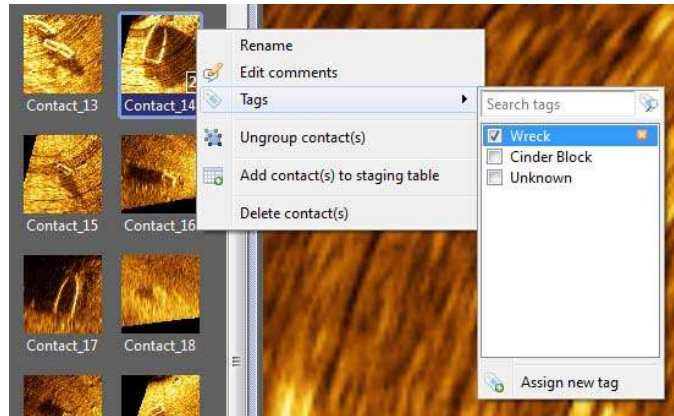

Figure 66. Assigning Tags
- Right-click on a thumbnail/contact, hover over **Tags** and click the checkbox next to any tags to check it (Figure 66). Click anywhere outside the context menu to hide the menu.